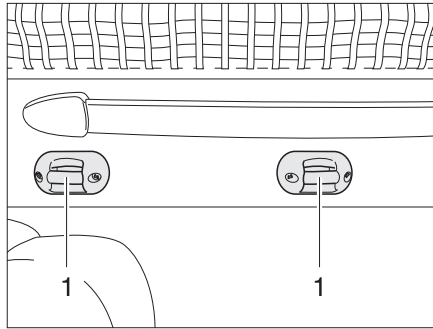

Fig. 167 Access ladder holder
- Hook the access ladder to the pull-down bed by attaching both brackets into the U-bolts (Fig. 167,1).